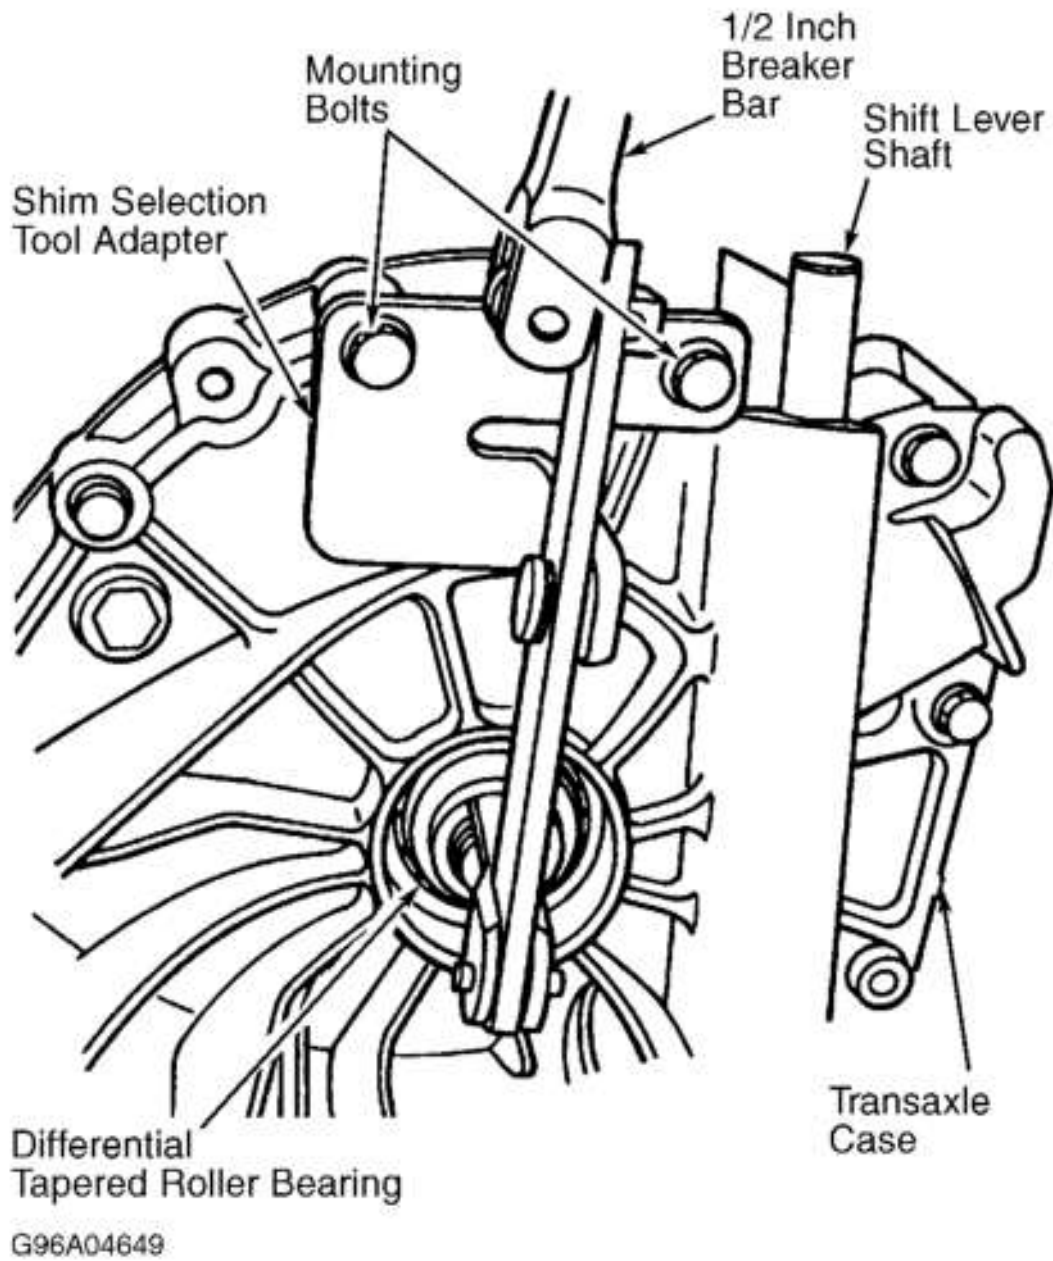

Fig. 16: Installing Differential End Play Measuring Fixture
9. Install Measuring Fixture (T94P-4451-BH) to outside of transaxle case. See **Fig. 16**. Rotate input shaft, while pressing down on differential to seat bearings. Mount dial indicator on transaxle case with indicator pointer on end of differential assembly. See **Fig. 17**. Zero dial indicator. Using a 1/2" breaker bar to actuate measuring fixture, raise differential assembly and note dial indicator reading. Repeat at least 3 times and calculate average reading.